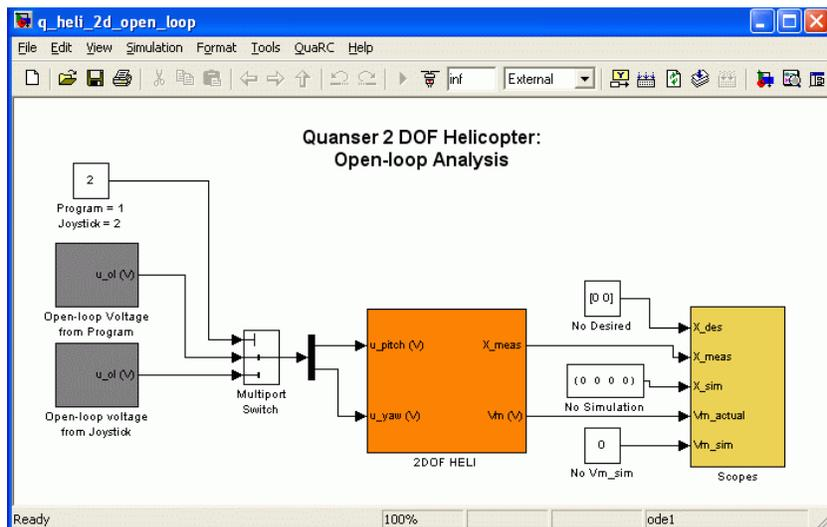

Figure 5.11: Simulink diagram to run 2 DOF Helicopter in open-loop with QUARC
8. Open the θ (deg), ψ (deg), and V_m (V) scopes in the *Scopes* folder. These scopes display both the desired and measured angles of the Helicopter as well as the voltages being applied to the front and back motors.
11. In the $q_heli_2d_open_loop$ Simulink diagram, make sure the *Program/Joystick* block shown in Figure 5.11 is set to 2 in order to generate the desired voltage from the joystick.